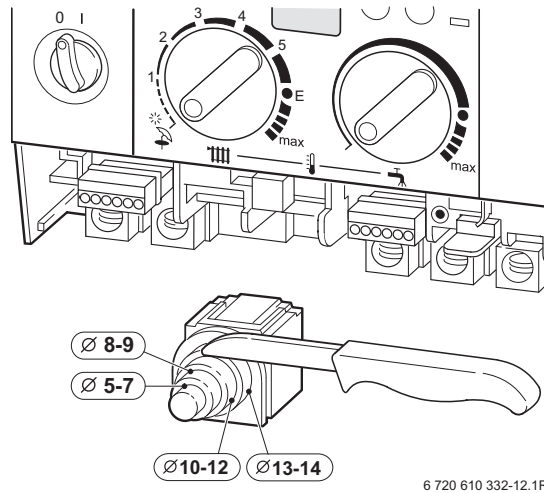

Fig. 23
- ▶ To maintain the splash-proof (IP) design: cut the cable grommet hole size to match the diameter of the cable, see fig. 23.